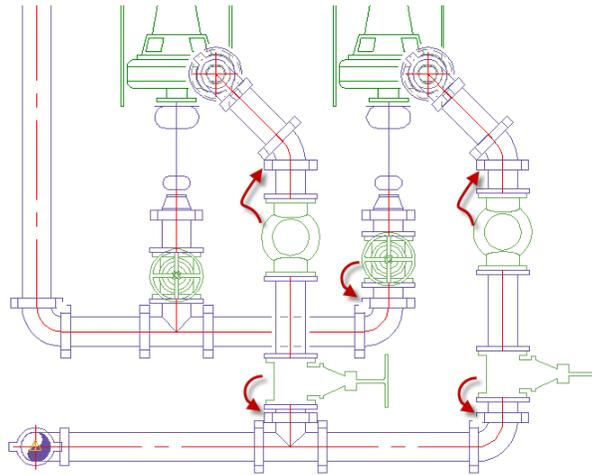

Figure 6.52
- Repeat this process to move all the valves to the associated fittings (see Figure 6.52).